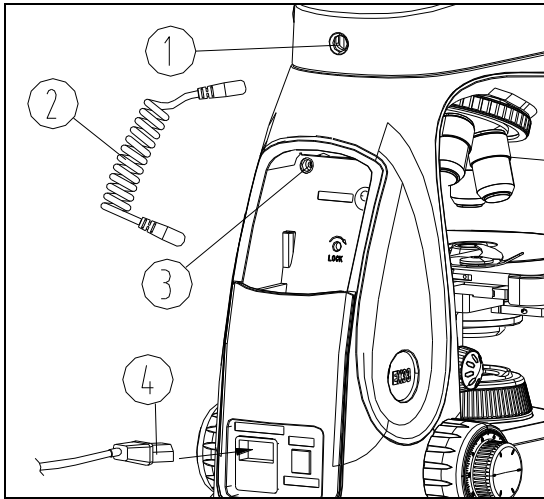

Fig. 28
5. Insert one end of the power cable ② into the power socket ① of the LED fluorescence illuminator back, and then insert the other end into the power socket ③ of the microscope back or insert the power adapter plug into a suitable electrical receptacle. Ensure both connections are secure. (See Fig. 28)
6. Insert one end of the external power cord ④ into the power socket ⑤ of the microscope back, and then insert the other end into the power supply receptacle. Ensure both connections are secure.